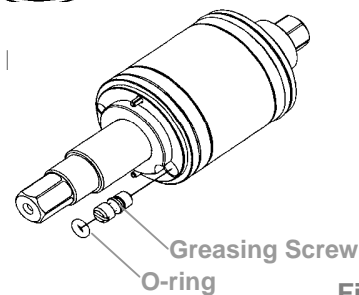

Fig. 416
- ② After installing the front cover, put the o-ring on the greasing screw, then tighten the greasing screw but release it a little bit after completely tightened. (Fig. 416)